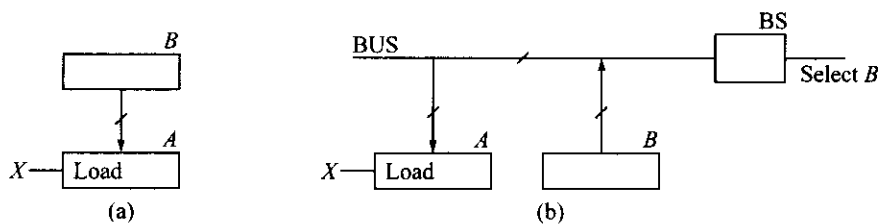

Fig. 16.3 Register transfer $A \rightarrow B$: (a) without BUS, (b) with BUS
Since, BUS is not a register but a group of wire this means B getting access to BUS through BUS selector (BS) and the whole event takes place in one clock cycle. Figure 16.3 pictorially depicts register transfer without and with BUS .